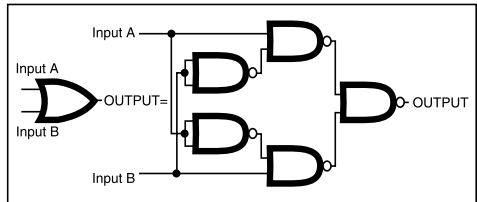

Fig. 2.7 (a): XOR gate realization
**(e) XOR (Exclusive OR):** Gate realisation requires use of five NAND gates as shown in Fig. 2.7 (a). Another